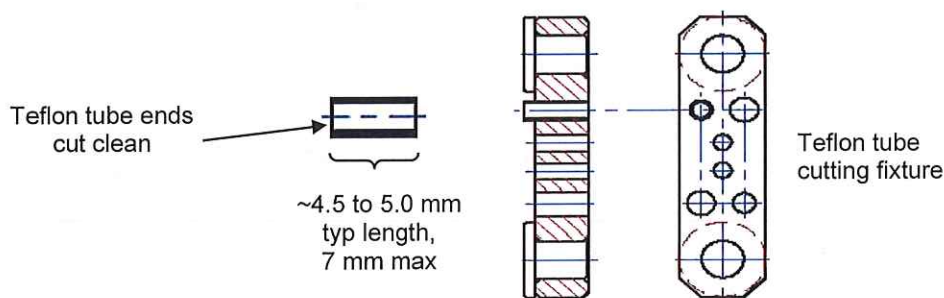

Fig 1 Cutting the teflon tube
- 1) After selecting the teflon tube (either 2.1 or 2.6 mm OD), use the included teflon tube cutting fixture to cut a desired length of tube for inserting the sample. The cell kit includes all necessary parts to accommodate either size teflon tube. The diameter of teflon tube depends primarily on the volume of sample to be measured (fig 1).